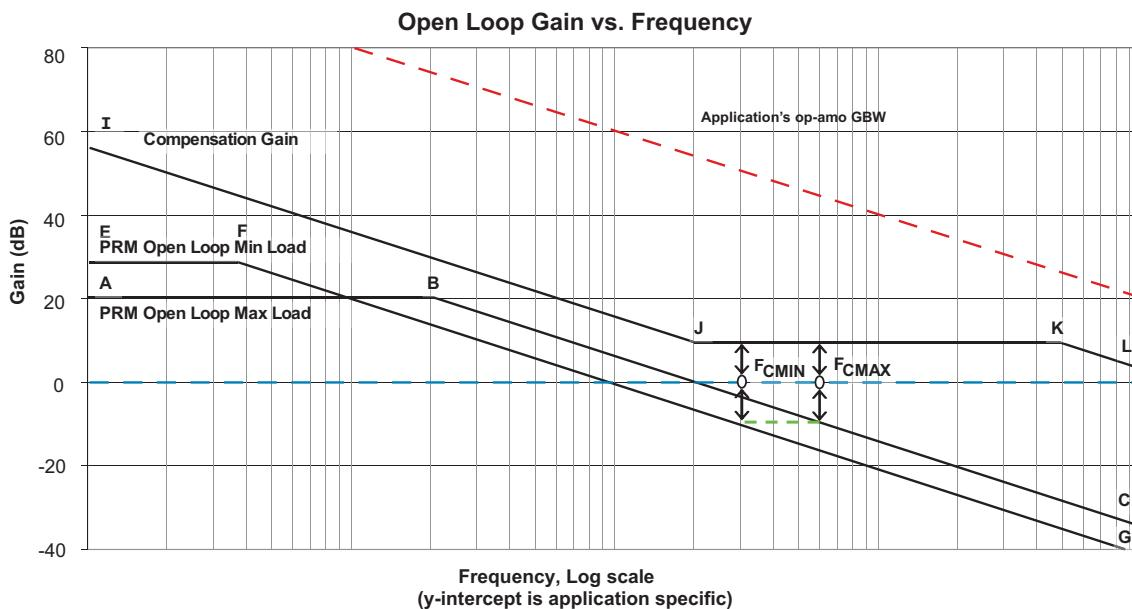
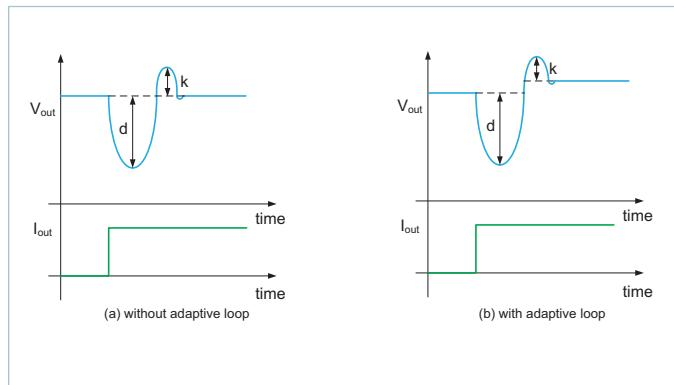

Figure 38 — Reference asymptotic Bode plot for the considered system
Figure 40 — Load step response example and "droop" vs. "kick".
Figure 40 illustrates an example of a load step response. Equation (11) can be used to predict the phase margin based on the ratio of the "kick" to "droop" (as defined in Fig. 38).